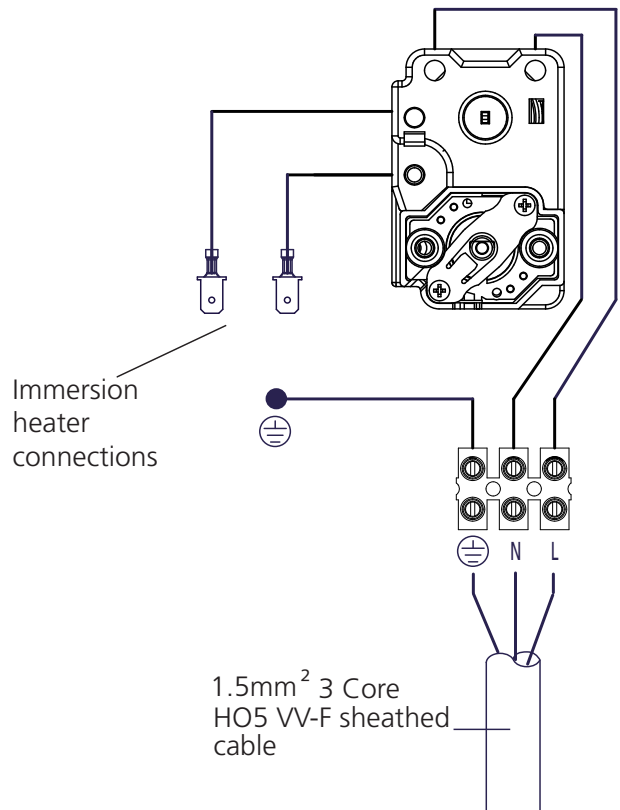

Figure 13: Direct wiring schematic
- ▶ The back up immersion heater should be wired in accordance with fig 13 and 14, page 18.